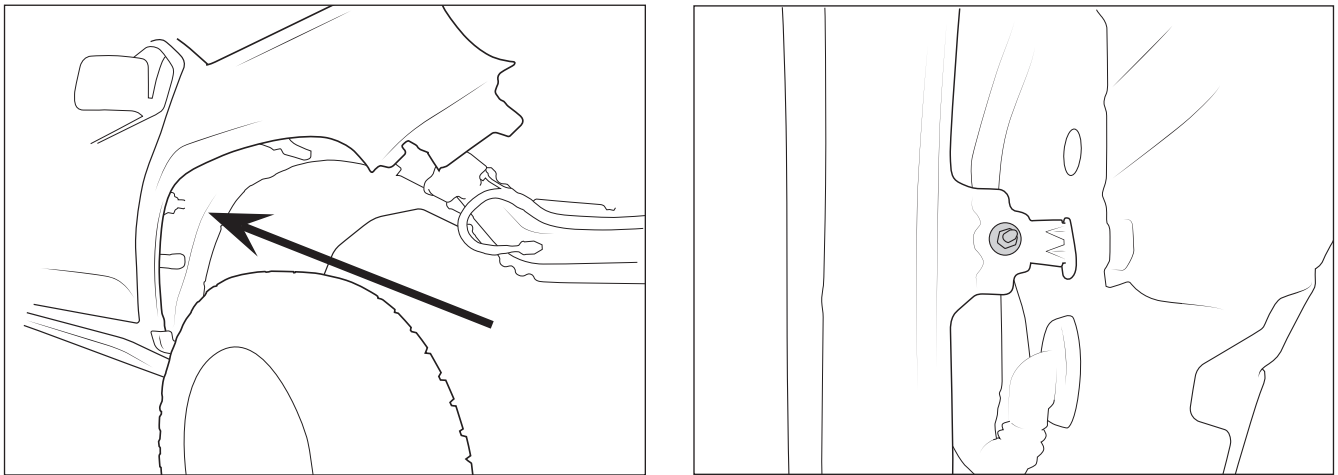

Figure 7
- a. Loosen the factory M6 nut attaching the fender (fig. 7).